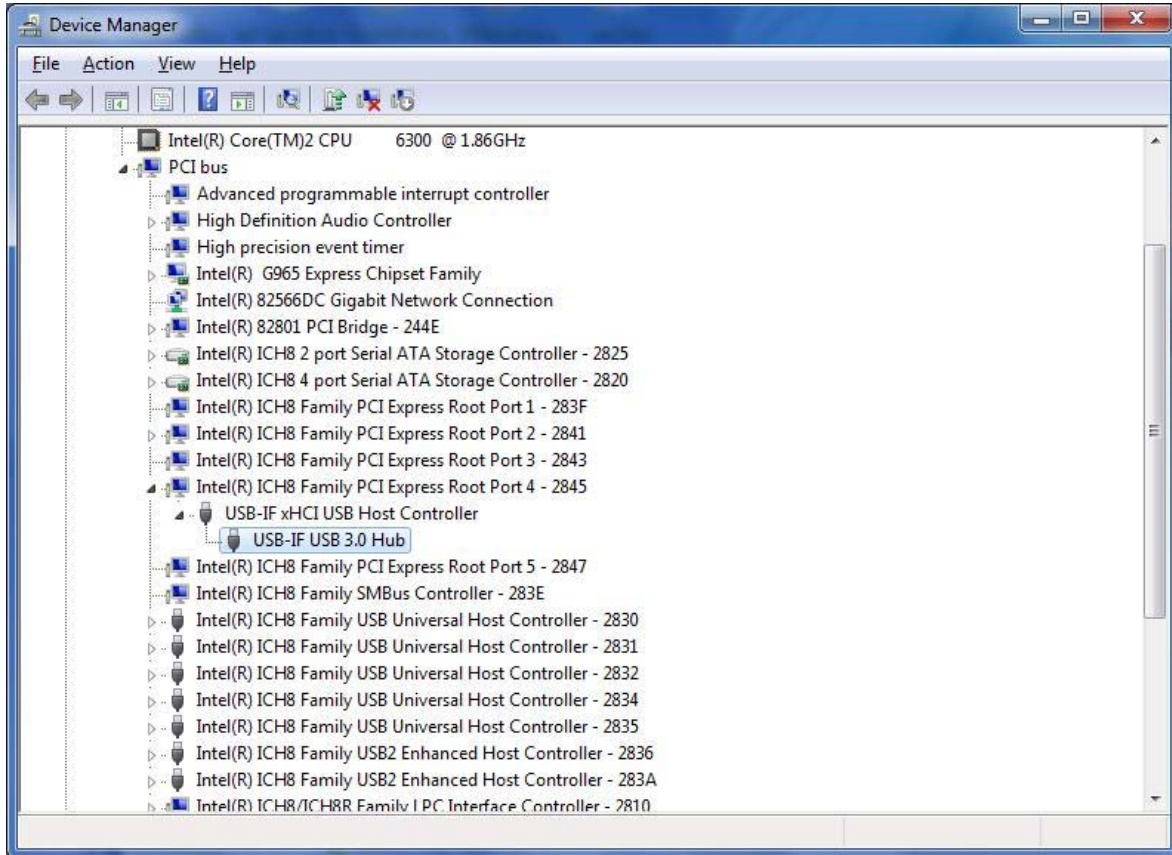

Figure 6.6.2: Standard USB 3.0 Driver
- h. Navigate to the Device Manager and View Devices by connection to confirm proper installation of the USB-IF USB 3.0 Hub as shown in Figure 6.6.2.